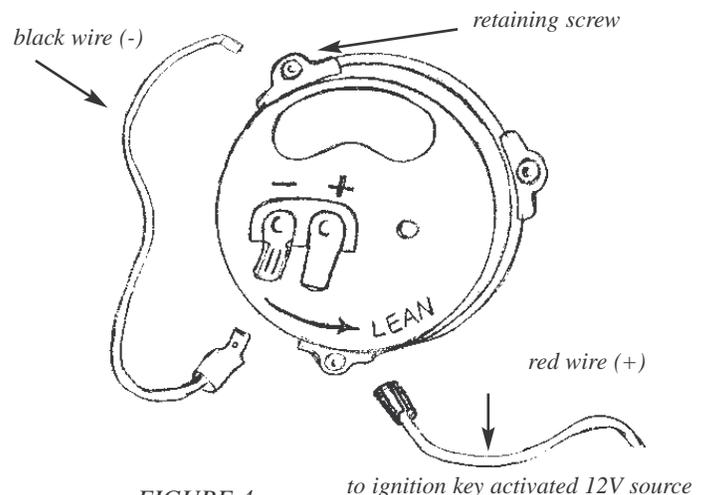
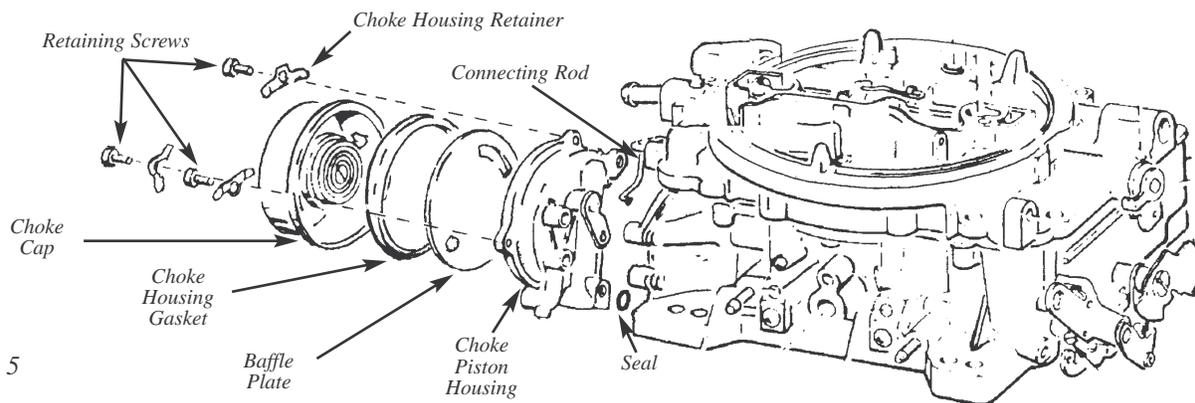

FIGURE 4
FIGURE 5
10. Place the connecting rod into the keyed slot of the choke housing lever (Figure 5). Place the choke piston housing seal into the cast recess of the choke housing.
13. Install the baffle plate with the indentation facing the carburetor (Figure 5). Install the choke cap and cap gasket using the supplied retainers and screws. When doing so, attach the black ground wire by placing the eyelet end of the wire between the designated screw and retainer (Figure 4).
14. Connect the clip end of the black ground wire to the negative (-) spade terminal on the choke housing (Figure 4).
15. Connect the red wire spade terminal to the positive (+) terminal on choke housing (Figure 4). Connect the other end of the red wire to an ignition key activated 12 volt source. Ensure this source maintains 12 volts with the engine running.